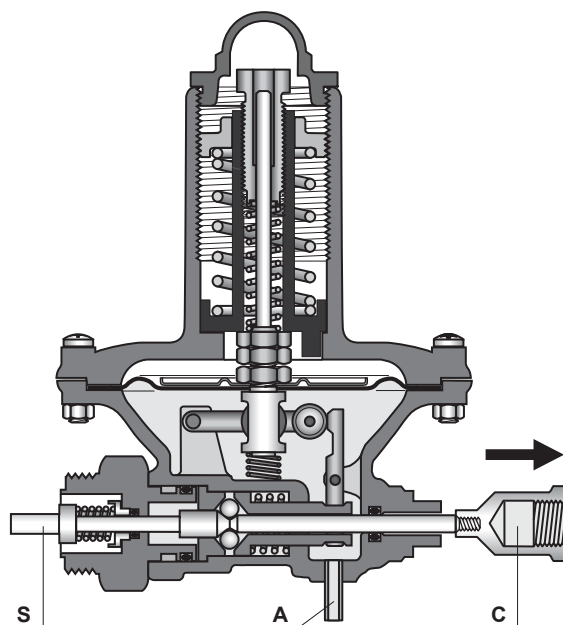

Figure 4. Type OS/66 Series Startup
- b. Place the balls holder (key 10) on the special tool, grease it thoroughly to prevent balls from falling out and lodge the balls (key 12) in their seats. Hold the special tool in a vertical position and tighten the balls holder.
- c. Adjust the position of balls holder (key 10) so that, with lever (key 24) held down at travel end, plate unit (key 8) moves freely and has a clearance of 0,2 to 0,3 mm.
- d. Place the adjusting nut (key 40) back in its original position as shown in Figure 4.
- e. Hold stem unit (key 41) slightly pressed to ensure proper fitting of diaphragm (key 36). Mount cover (key 7) and check that stem unit (key 41) is duly centered.
- f. Tighten cover screws (key 27) nuts (key 25) and washers (key 26) to ensure proper sealing.
- i. Remount the controller and secure it by means of screws (key 29).